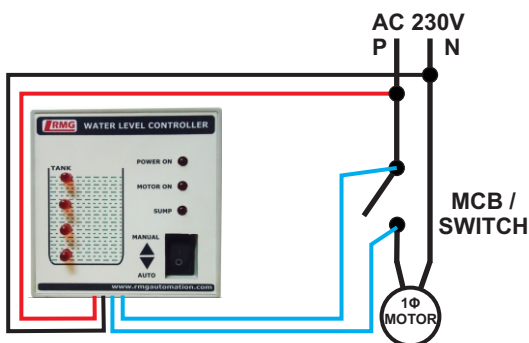
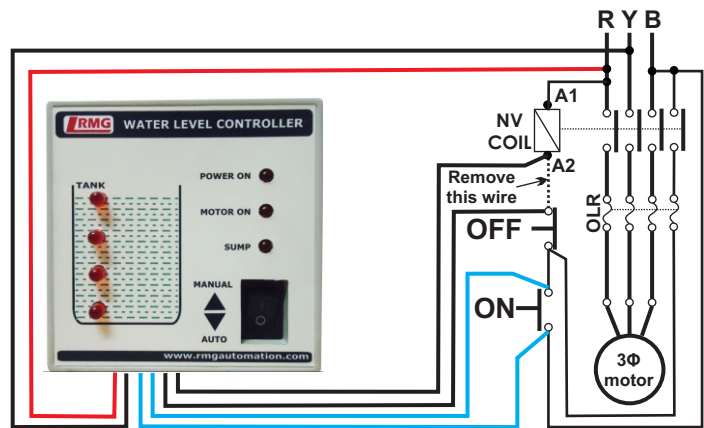
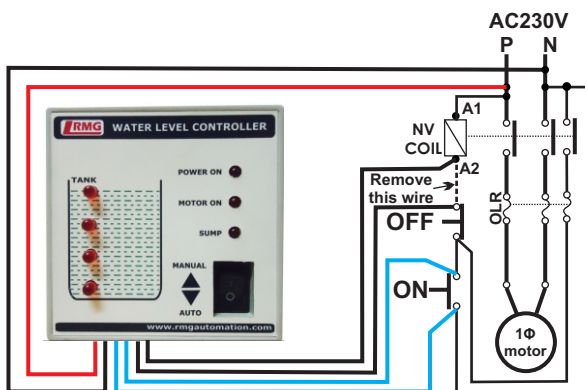

Figure1: 1Φ SWITCH/MCB
Figure2: 3Φ Starter
Figure3: 1Φ Starter
**Step 2:** As per the model purchased, check the label and connect AC supply (230V / 440 V) to 1st and 2nd terminal of the controller (red and black wire) refer figure 1 and figure 2.
**Step 3:** For switch or MCB, Connect 3rd and 4th terminal of the controller (blue pair wire) to the switch/MCB of the motor in parallel as shown in figure 1.
**Step 4:** For starter, Connect 3rd and 4th terminal of the controller (blue pair wire) to ON button of starter in parallel and 5th and 6th terminal (black pair wire) to OFF button in series (Refer to figure 2 and figure 3)